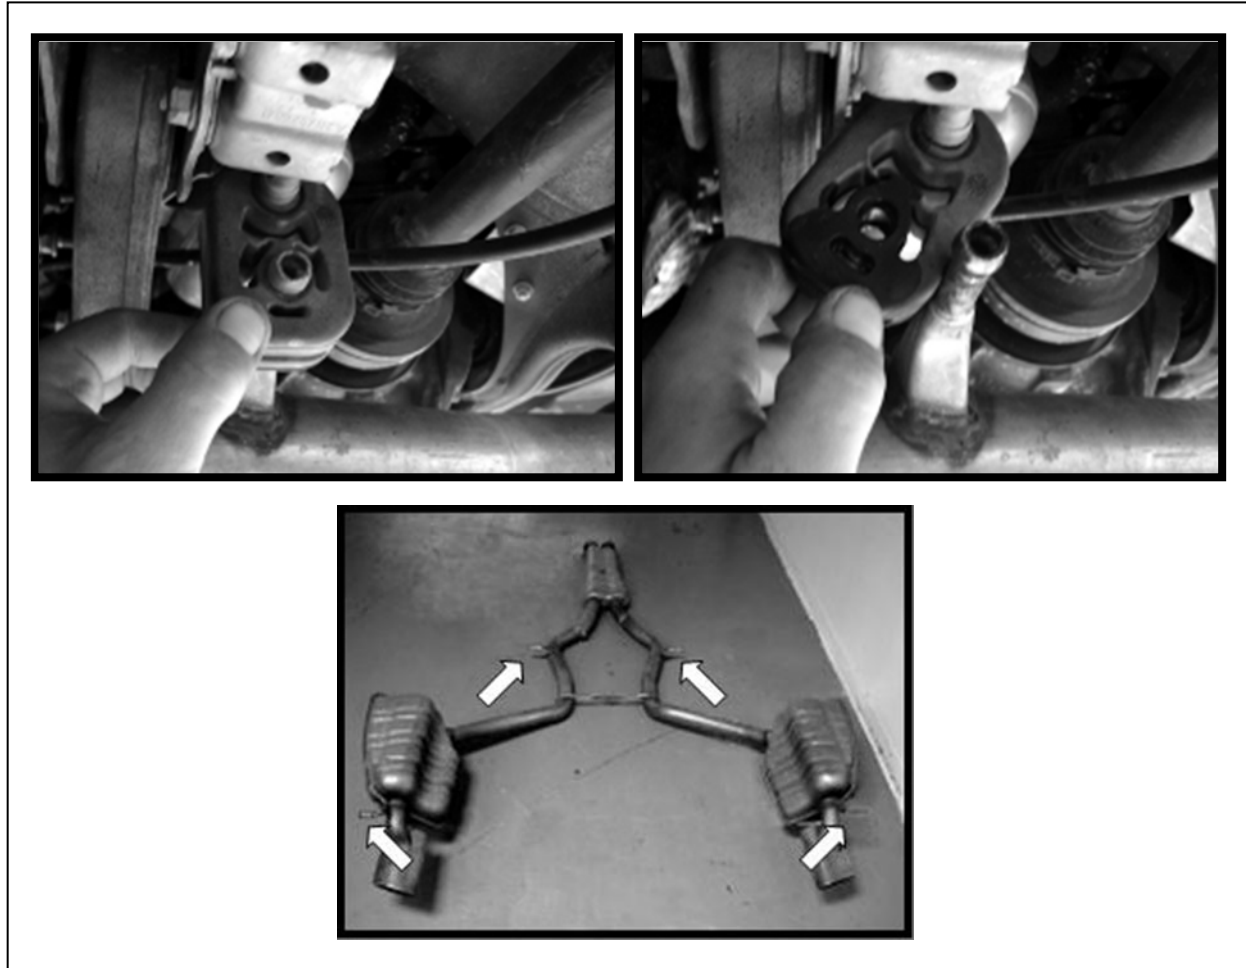

FIGURE 10-11
14.0 SUPPORT EXHAUST WHILE REMOVING RUBBER HANGERS, AND REMOVE EXHAUST. (FIGURE 10-11)